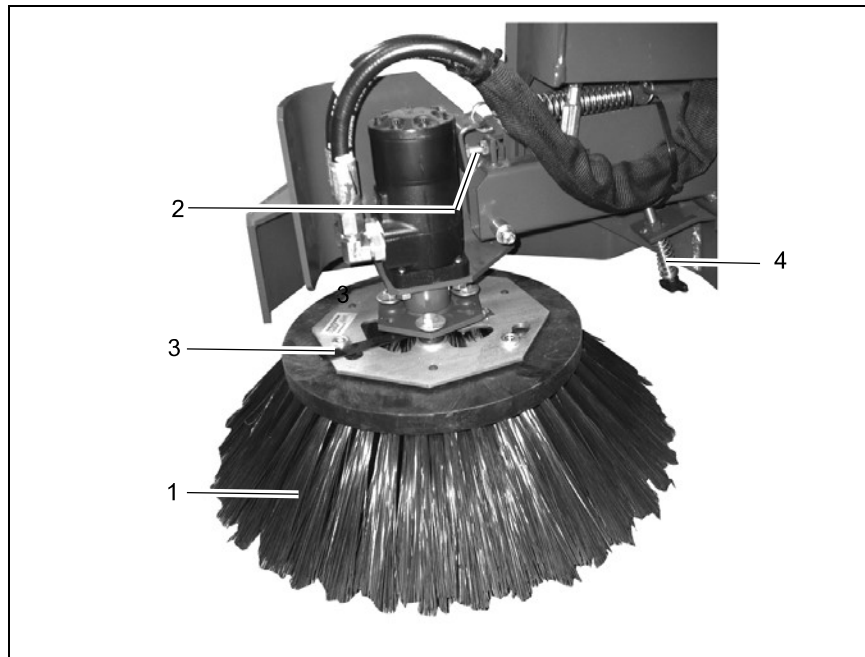

Fig.19
The angle of the side brush (Fig. 19/1) is set at the factory and only needs to be adjusted following repairs.
2. Loosen the counternut (Fig. 19/2).
3. Adjust the angle of the side brush to approx. 3° to 5° with the adjusting bolt and lock the adjusting nut again with the counternut (Fig. 19/2).
Check the side brush (Fig. 19/1) every week for signs of wear. In the event of wear or after the side brush has been changed, proceed as follows to complete the necessary adjustments:
2. Adjust the height of the side brush (Fig. 19/1) using the adjusting bolt (Fig. 19/4).
When the brushes have worn to a bristle length of 8 cm or less, the side brushes (Fig. 19/1) must be changed. The side brushes can be detached easily thanks to the quick-release system.
2. Raise the locking plate (Fig. 19/3), turn the side brush (Fig. 19/1) to the right and remove it.
3. Insert a new side brush (Fig. 19/1) and fix in place with the locking plate (Fig. 19/3).